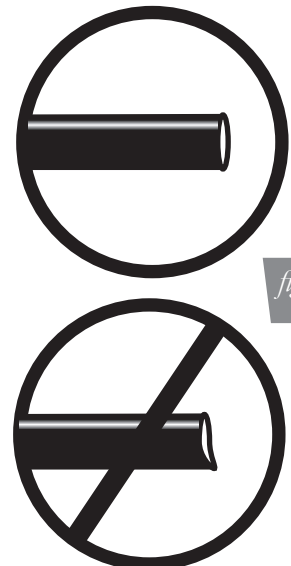

fig. 25
- a. Check the air line connection by deflating the spring and removing the line by pulling the collar against the fitting and pulling firmly on the air line. Trim 1" off the end of the air line. Be sure the cut is clean and square (see fig. 25). Reinsert the air line into the push-to-connect fitting.